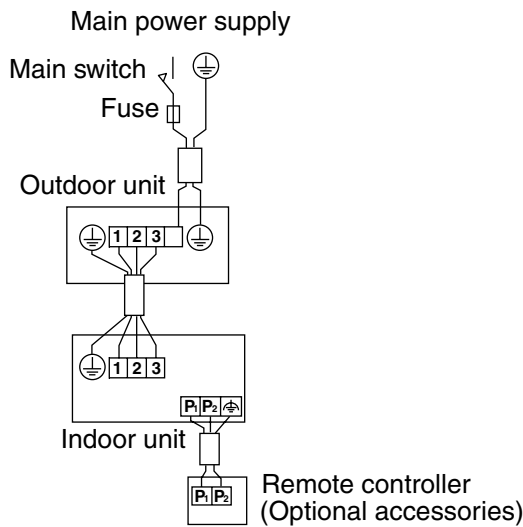

Fig. 25
- **Pair type** : 1 remote controller controls 1 indoor unit. (standard system) (Refer to Fig. 25)